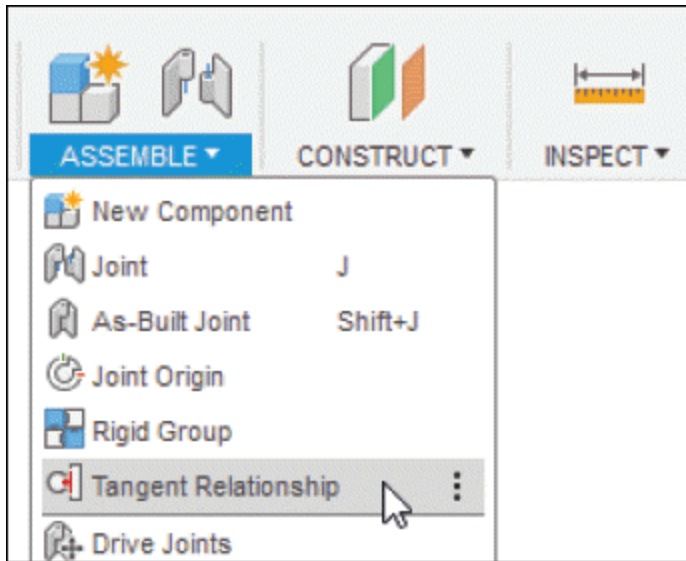

Figure-37. Tangent Relationship tool
- Click on the **Tangent Relationship** tool of **ASSEMBLE** drop-down from **Toolbar**; refer to Figure-37. The **TANGENT RELATIONSHIP** dialog box will be displayed;